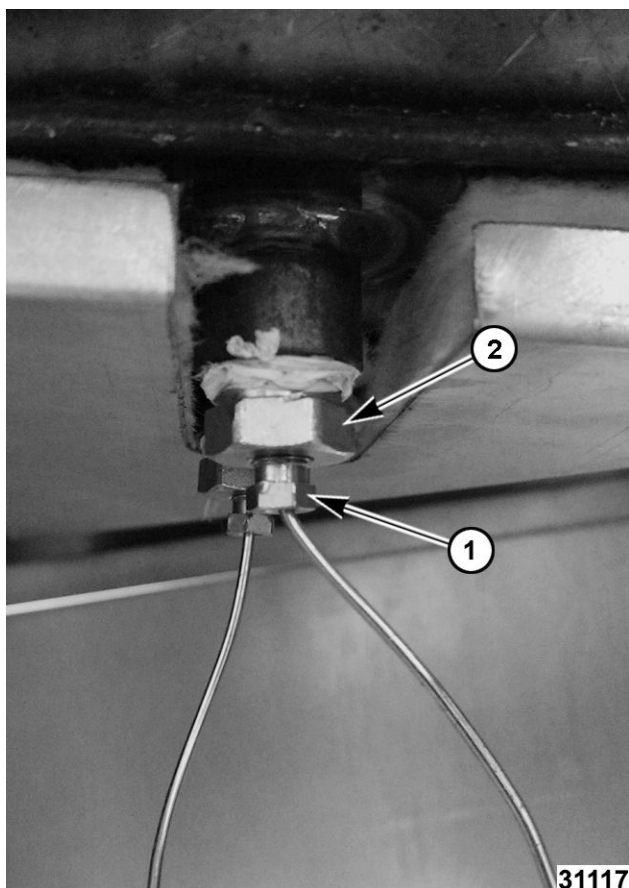

Fig. 15
- Loosen packing nut (1, Fig. 15) and remove holding nut (2, Fig. 15).